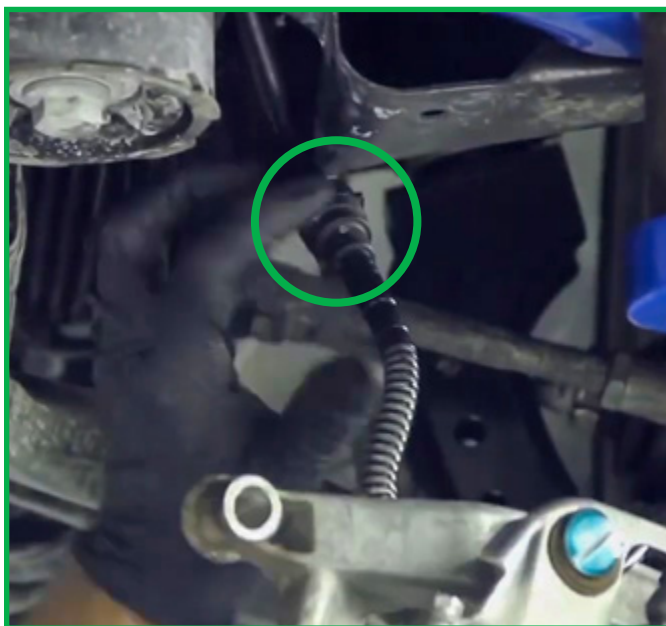

FIGURE 4
6. Disconnect the compressor vent hose by depressing the collar while pulling the hose. (Figure 4)